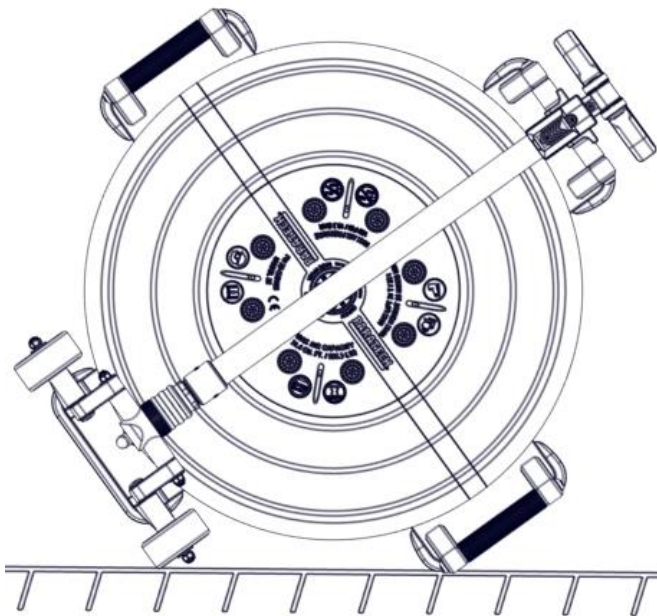

Figure 3-3. Vertical Storage
a. The preferred storage orientation of the MULTIFORCE® ALB is lying flat with THE BASE SLIDER PUCKS face down. If storing the MULTIFORCE® ALB vertically FIG 3-3, position it so the weight is on 2 of the base legs. In either orientation, the bag should be strapped down securely to the floor or wall to prevent damage from constant bumping during transport.